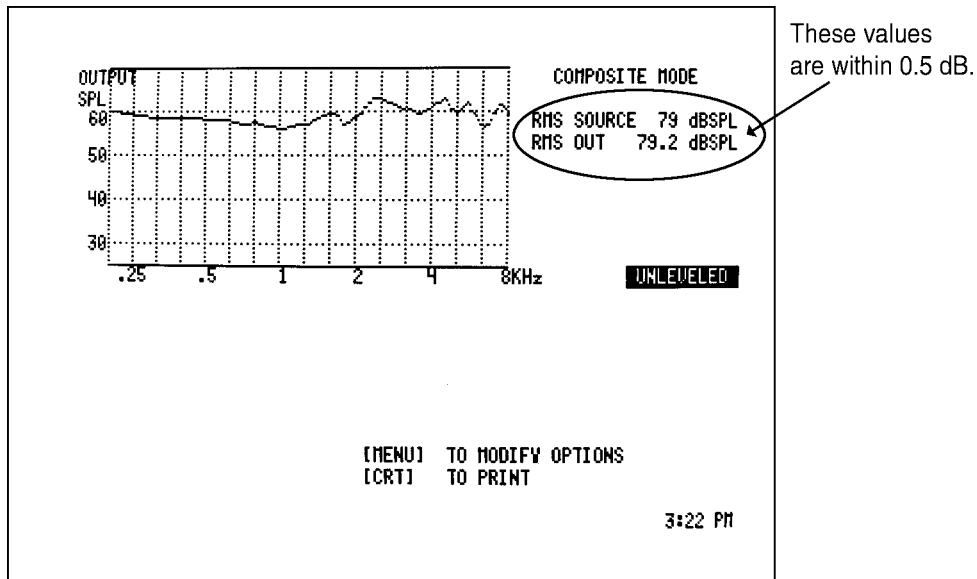

Figure 2.6.3—Sound chamber source in calibration
4. Press the [WEIGHT] button twice, to get to Composite Mode (without speech weighting). See Figure 2.6.3.